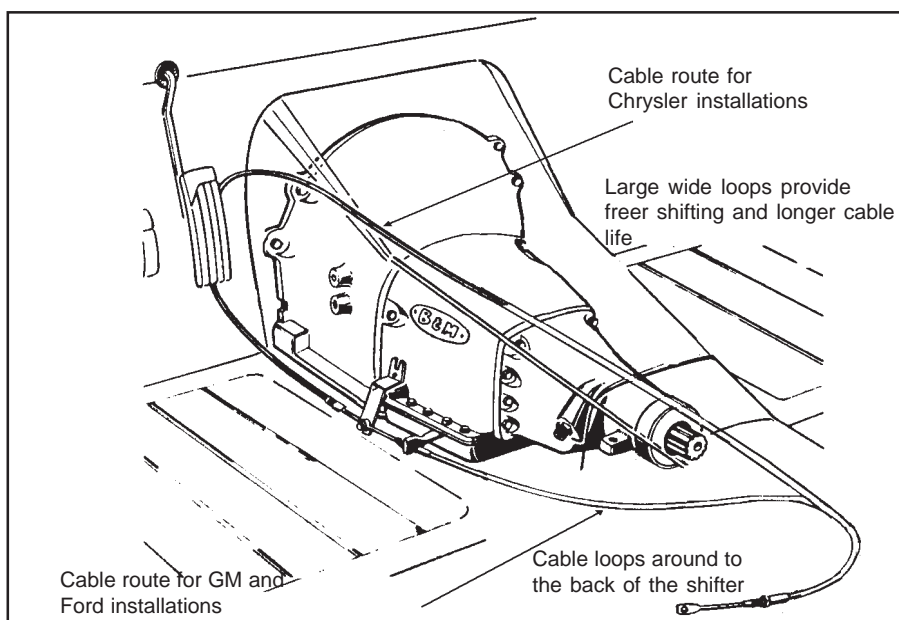

Figure 2
**STEP 7.** Check that the shifter moves through all the gear positions and that the other end of the cable moves in and out. Route the cable to the transmission as shown in **Figure 2** to avoid sharp bends or damage to the cable. For GM and Ford transmissions route the cable to the transmission from the rear. For Chrysler transmissions the cable must be looped around to the front side of the transmission.
**STEP 10.** Route the shifter cable according to Figure 2. Avoid kinks and sharp bends and route the cable away from hot engine or exhaust parts. The cable may be secured up and out of the way with nylon cable ties.
**STEP 16.** Route the shifter cable according to Figure 2. Avoid kinks and
**STEP 22.** Route the shifter cable according to Figure 2. Avoid kinks and sharp bends and route the cable away from hot engine or exhaust parts.